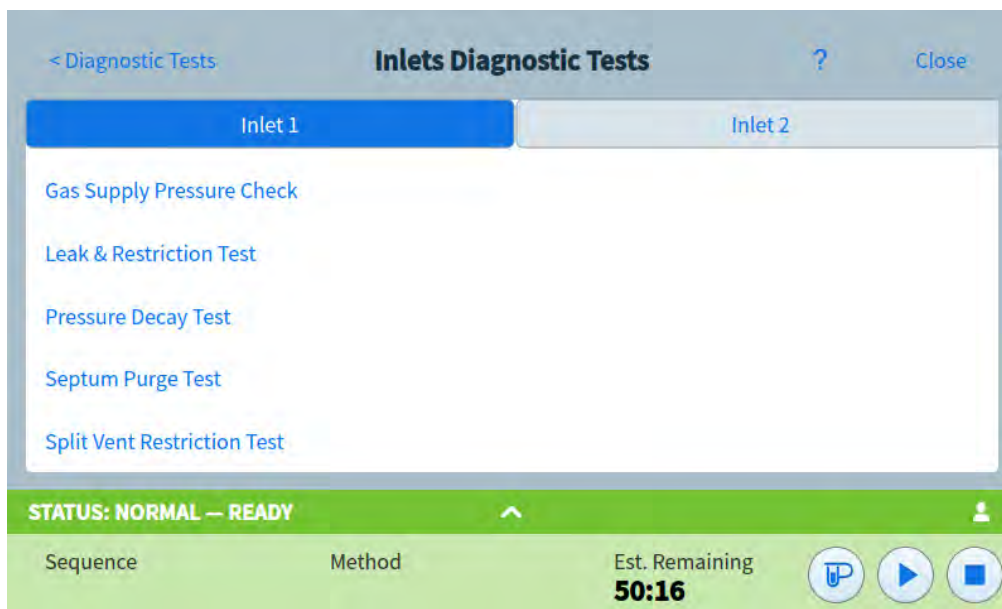

Figure 29. Inlet Diagnostic Tests page
- 3 Select **Inlets**, **Detectors**, or **Other**, as desired. The corresponding page will appear. For example, selecting **Inlets** brings up the Inlet Diagnostic Tests page. See **Figure 29**.